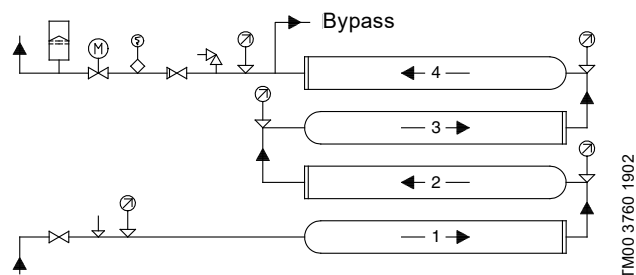

Fig. 6 Booster system with four modules connected in series, mounted above each other
- For modules connected in series, mounted above each other, we recommend to connect the pipes as shown in fig. 6.
Symbols used in figures 6 to 9: